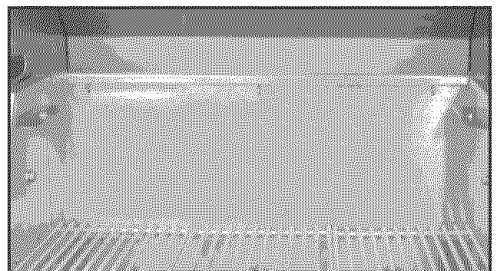

Fig. 17
3. Install cooking grates on the ledges provided on the grill to create your cooking surface. (See Fig. 17)